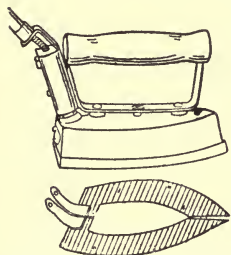

FIG. 52.— Electric flatiron, and resistance wire.
*Electric iron* (see figure 52). The value of the electric iron is widely appreciated and it is in general use. It maintains